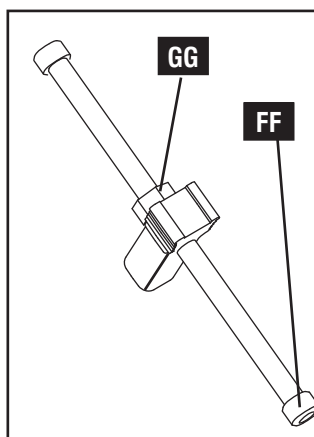

Fig. E17
TO CORRECT RECESSED PINBOARD: Loosen hex nut (GG) Fig. E17 and turn stop screw (FF) Fig. E17 or E18 **clockwise** if the joint is recessed.
TO CORRECT PROUD PINBOARD: Loosen hex nut (GG) Fig. E17 and turn stop screw (FF) Fig. E17 or E18 **counter-clockwise** if the joint is proud.